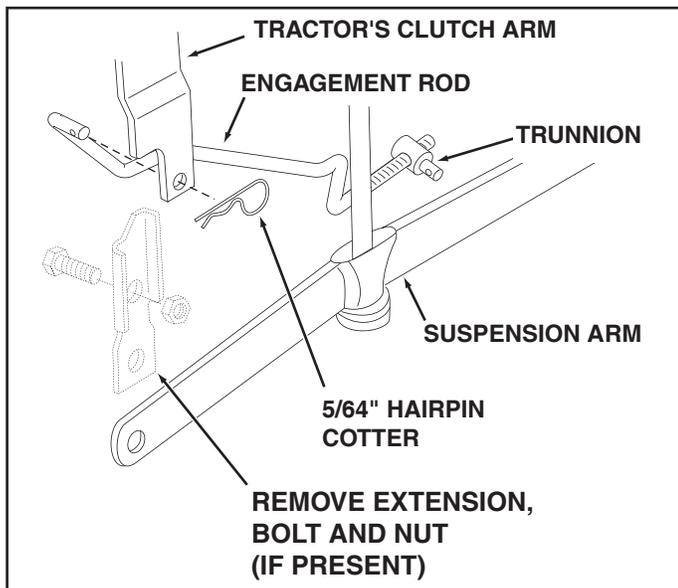

FIGURE 11 RIGHT SIDE VIEW
2. Screw the trunnion onto the end of the snow thrower engagement rod as shown in figure 11.
4. Position the engagement rod to the inside of the clutch arm and insert the drilled end of the rod through the arm. Secure with a 5/64" hairpin cotter. See figure 11.